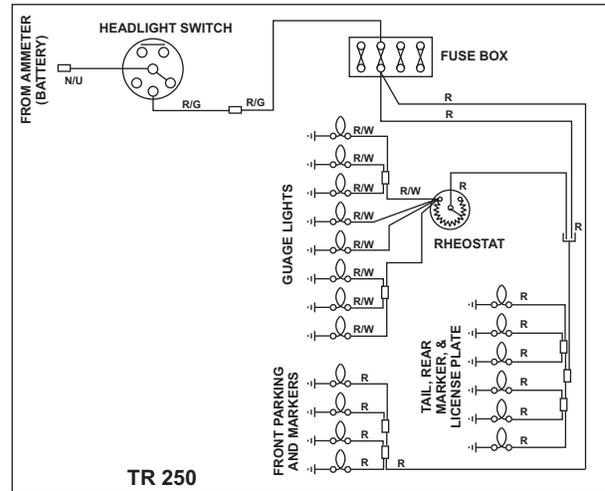

FIGURE 10
For your convenience, I have redrawn **figures 1 through 4** as **figures 10 through 12**, below, showing only the
Step 4). Power from the “red” fuse goes directly to the front lamp assemblies, with no intervening connectors. The red wire goes first to a double bullet/sleeve connectors on the left side of the car, and then to the right side, and another double connector (refer to **figures 10, 11, and 12**, previous page, for details). If none of the front lights work, the most likely problem is the first connection, which will probably be bad. Check for voltage on the red wire from the fuse at this point. If you have power, continue testing on out to each individual lamp connection till you find the problem. If you don’t have power on this wire, there is a break in the wire somewhere between here and the fuse.
The red wire from the multi-pin connector goes to dimmer control for the gauge lights (refer to **figures 10, 11, and 12**, previous page, for details). Check for voltage on the red wire at the dimmer control. If you don’t have voltage on this wire, there is a break in the wire somewhere between here and the multi-pin connector.